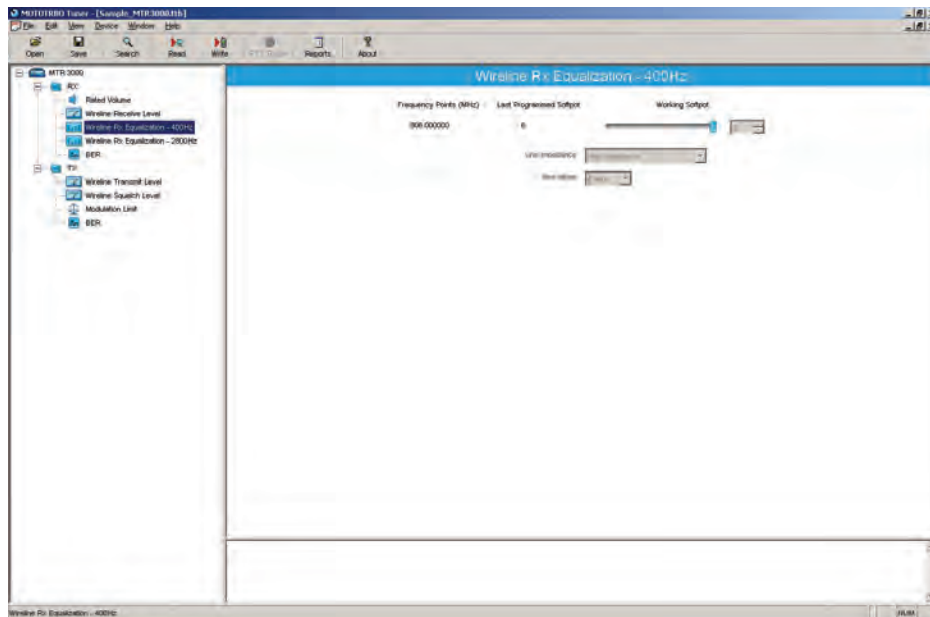

Figure 13-8 Rx Menu tree (Wireline Rx Equalization – 400 Hz)
4. Select "Wireline Rx Equalization – 400 Hz" under the Rx menu in the tree view (Refer to Figure 13-8).